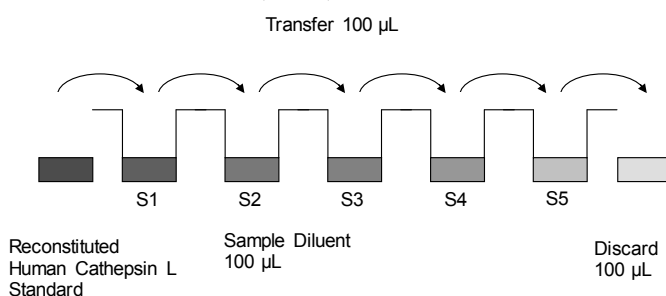

Fig. 7 Dilute standards - microwell plate
3. Standard dilution on the microwell plate (Alternatively the standard dilution can be prepared in tubes - see "External standard dilution" on page 3): Add 100 µL of Sample Diluent in duplicate to all standard wells. Pipette 100 µL of prepared standard (see Preparation of Standard "Human cathepsin L standard" on page 3, concentration = 100.0 ng/mL) in duplicate into well A1 and A2 (see Table 1). Mix the contents of wells A1 and A2 by repeated aspiration and ejection (concentration of standard 1, S1 = 50.0 ng/mL), and transfer 100 µL to wells B1 and B2, respectively (see Figure 7). Take care not to scratch the inner surface of the microwells. Continue this procedure 3 times, creating two rows of human Cathepsin L standard dilutions ranging from 50.0 to 3.1 ng/mL. Discard 100 µL of the contents from the last microwells (E1, E2) used.